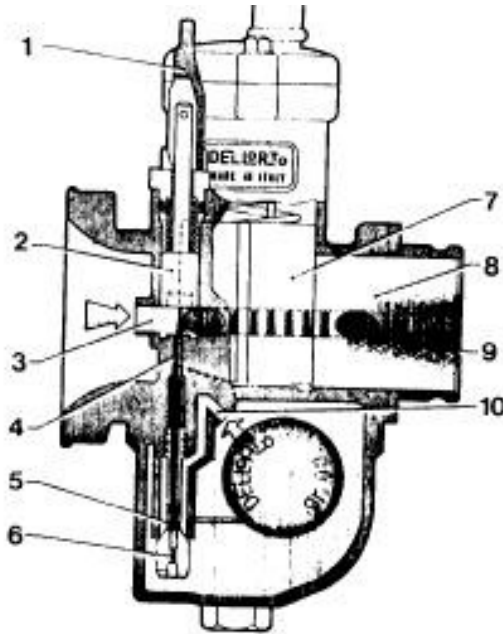

fig. 15
It is called independent because the starting device operates with its own circuit including a starter jet, emulsion tube and a starter valve (fig. 15)
Figure 15 shows the mixture strength delivered through the emulsion tube depends on the size of the starter jet (6) and on the size of the air duct (10).